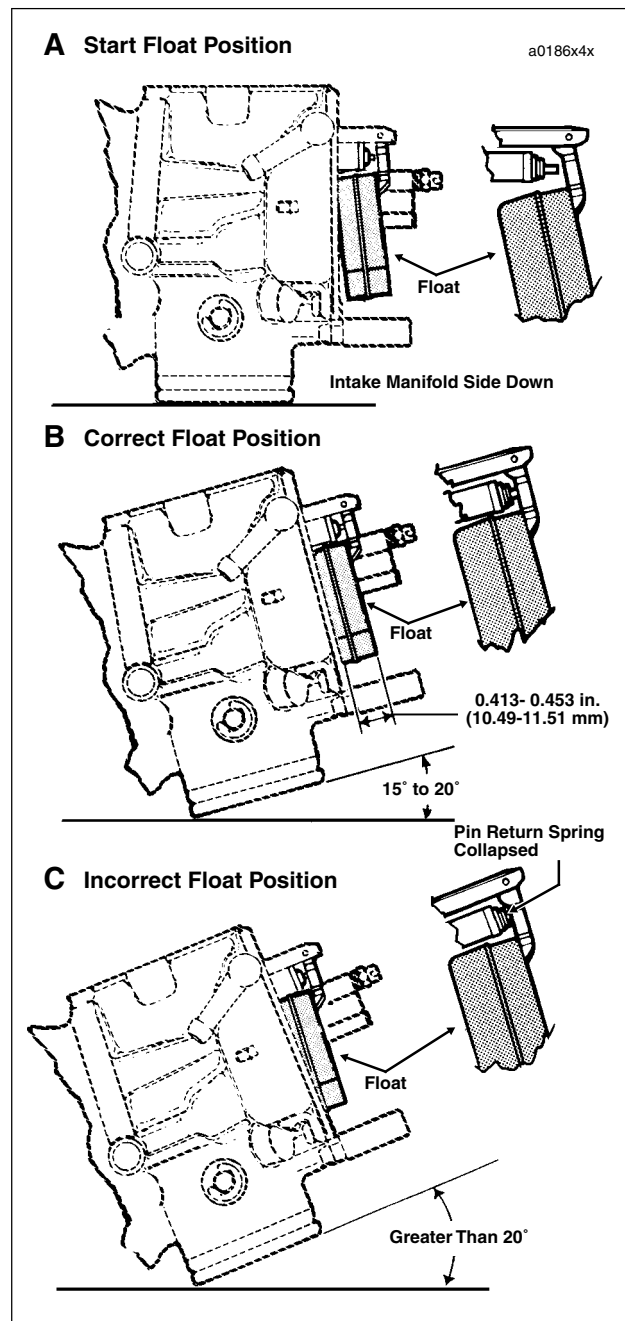

Figure 4-13. Float Check and Adjustment
- a. Place carburetor on a clean flat surface with the intake manifold side down. See A of Figure 4-13.
- b. Tilt the carburetor 15° to 20° in a counter-clockwise direction until float comes to rest. See B of Figure 4-13.